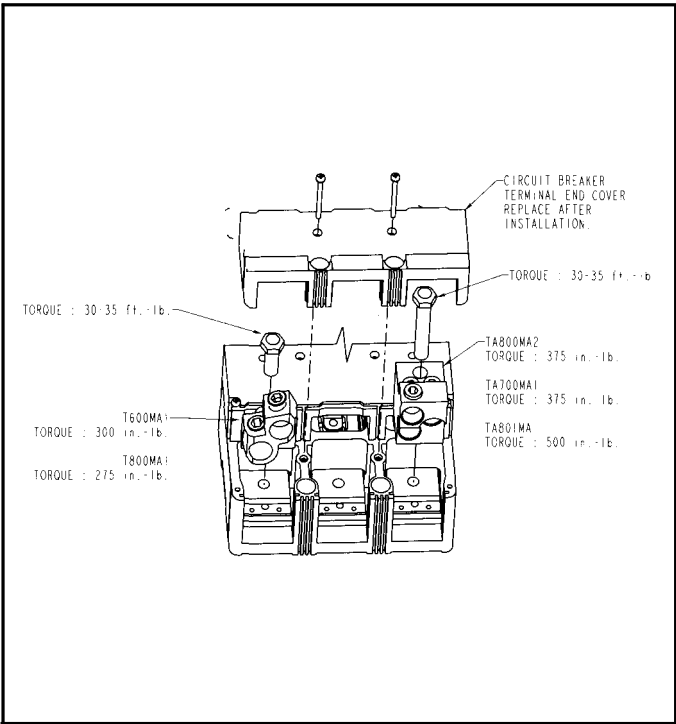

Fig. 2-2 Terminal Installation
- 2-5. If not already installed, mount wire connecting terminals as shown in Fig. 2-2. Secure the terminals to the circuit breaker using the provided 1/2 in. bolts and lock washers. Torque to 30 to 35 lb.-ft. (40.68 to 47.46 N.m). With the circuit breaker mounted and before the conductors are installed and conductor clamping screws inserted, the terminal mounting screws may be checked for the correct torque.